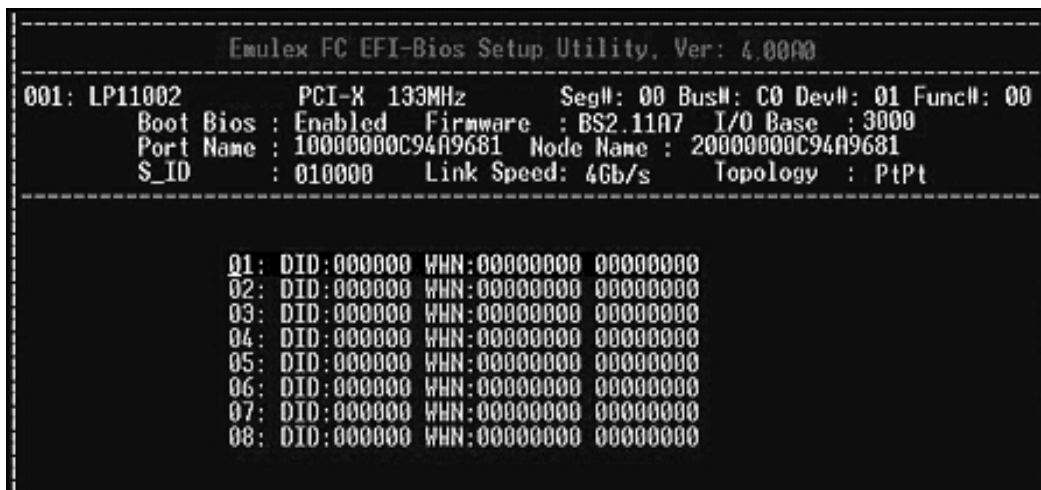

Figure 40: Device Rows screen
1. On the Boot Configuration menu, select **4. Configure Boot Devices** and press <Enter>. The screen shown in Figure 40 is displayed.